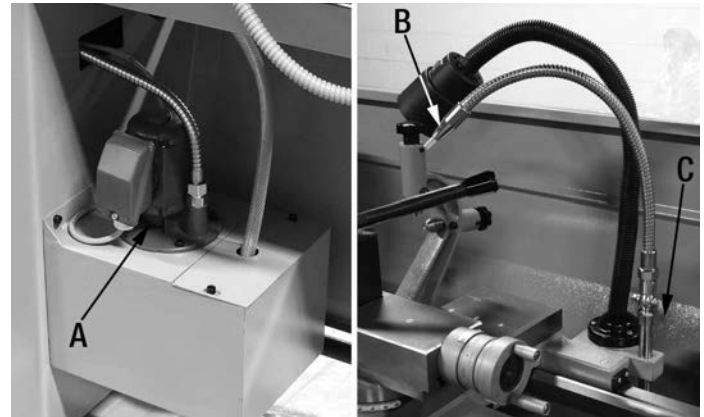

FIGURE 18
The coolant system operates by recycling the coolant flow from the coolant pump (A) Fig.18 up through the coolant spout (B), then falls into the chip tray and drains back down through the screen to the coolant pump and the cycle is repeated. To fill the system with coolant, simply pour coolant into the chip tray, it will flow down into the coolant bucket. Be careful not to overflow. The amount of flow is controlled by a valve (C) Fig.18 at the base of the coolant spout. For maximum flow, open the valve completely.